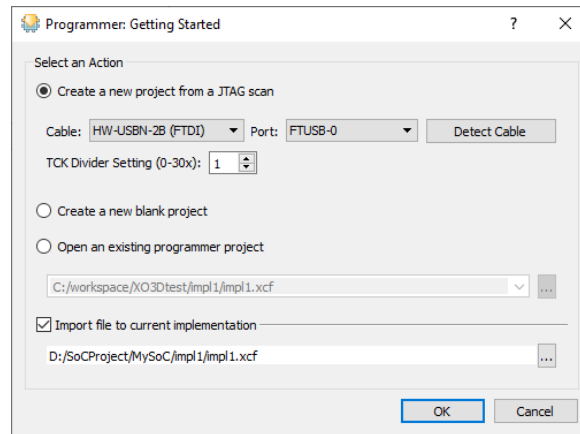

Figure 6.16. Programmer Getting Started Dialog
2. The **Programmer: Getting Started** dialog pops up (Figure 6.16). Click **OK**.